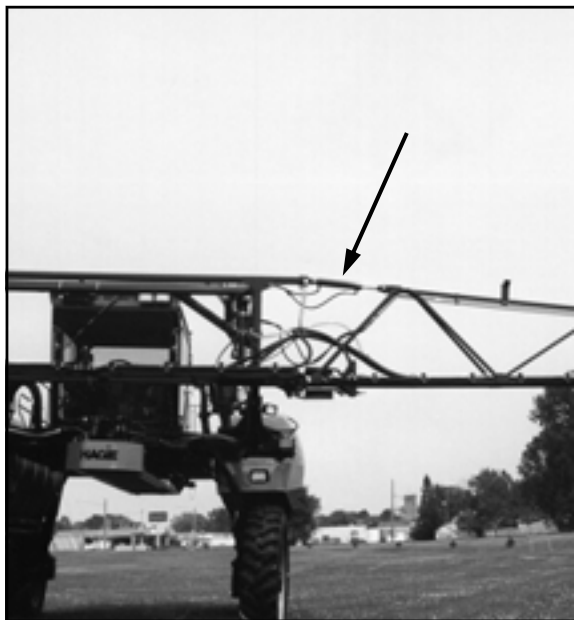
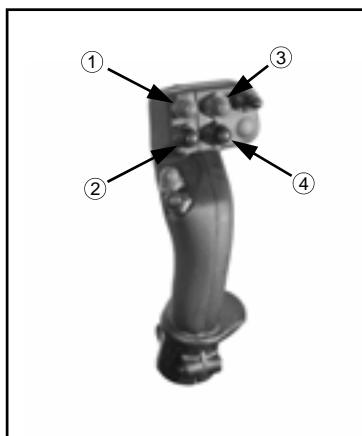

FIG 5.15
FIG 5.16
To increase or decrease the angle of each individual boom level, depress the left or right “GRAY” (UP) or the left or right “RED” (DOWN) buttons on the hydrostatic drive handle (fig. 5.16, items 1 thru 4). While depressed, these buttons activate the level cylinders connecting either boom to the transom (fig. 5.15).